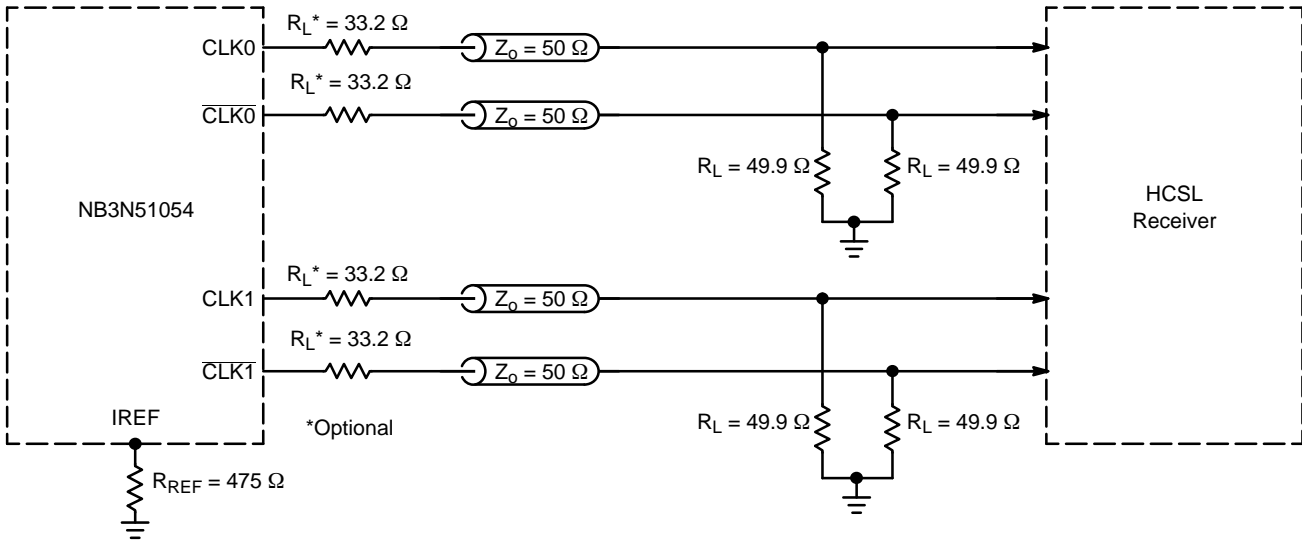
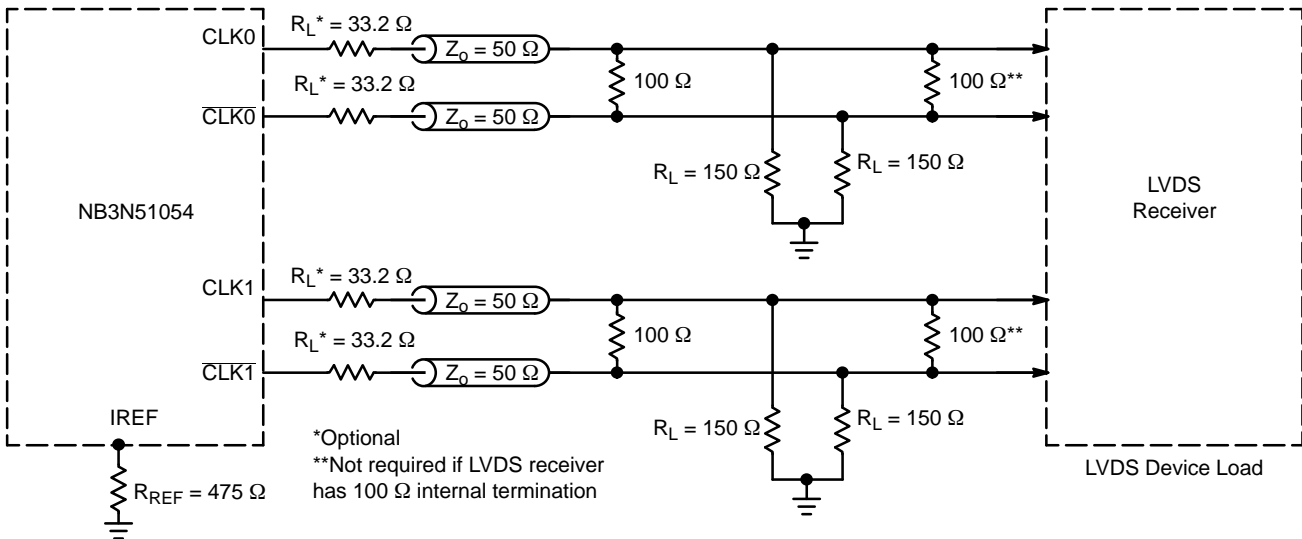

Figure 6. Typical Termination for HCSL Output Driver and Device Evaluation
Figure 7. Typical Termination for LVDS Device Load
4. Measurement taken with outputs terminated with  $R_S = 33.2$  Ω,  $R_L = 49.9$  Ω, with test load capacitance of 2 pF and current biasing resistor set at  $R_{REF} = 475$  Ω. See Figure 6. Guaranteed by characterization.
9. Measurement taken from differential output on single-ended channel terminated with  $R_S = 33.2 \Omega$ ,  $R_L = 49.9 \Omega$ , with test load capacitance of 2 pF and current biasing resistor set at  $R_{REF} = 475 \Omega$ . See Figure 6. Guaranteed by characterization.
14. Measurement taken from differential output on single-ended channel terminated with  $R_S = 33.2\ \Omega$ ,  $R_L = 49.9\ \Omega$ , with test load capacitance of 2 pF and current biasing resistor set at  $R_{REF} = 475\ \Omega$ . See Figure 6. This parameter is guaranteed by characterization. Not tested in production
The outputs can be terminated to drive HCSL receiver (see Figure 6) or LVDS receiver (see Figure 7). HCSL output interface requires 49.9  $\Omega$  termination resistors to GND for generating the output levels. LVDS output interface may not